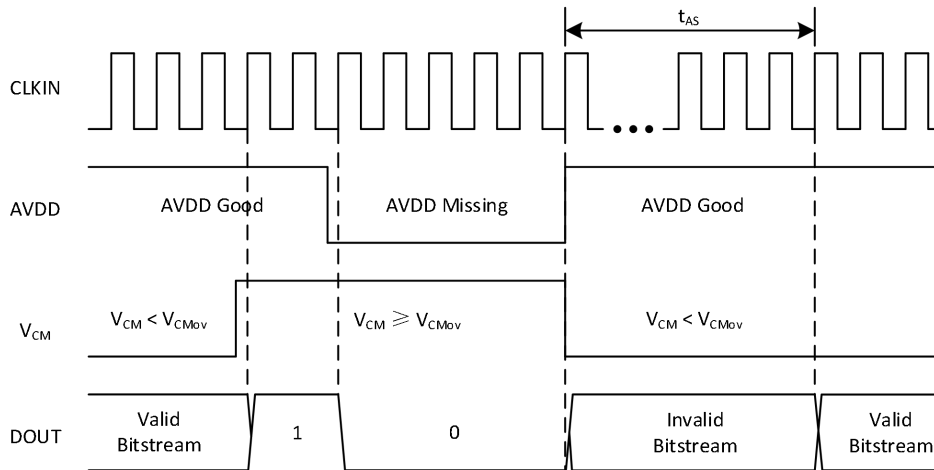

Figure 7.2 Fail-safe output
- When the undervoltage of AVDD is detected ( $AVDD < AVDD_{UV}$ ), DOUT pin output a bitstream of all logic zeros, as shown in Figure 7.2.
- When the overvoltage of common-mode input voltage is detected ( $V_{CM} > V_{CMov}$ ), DOUT pin output a bitstream of all logic ones, as shown in Figure 7.2.